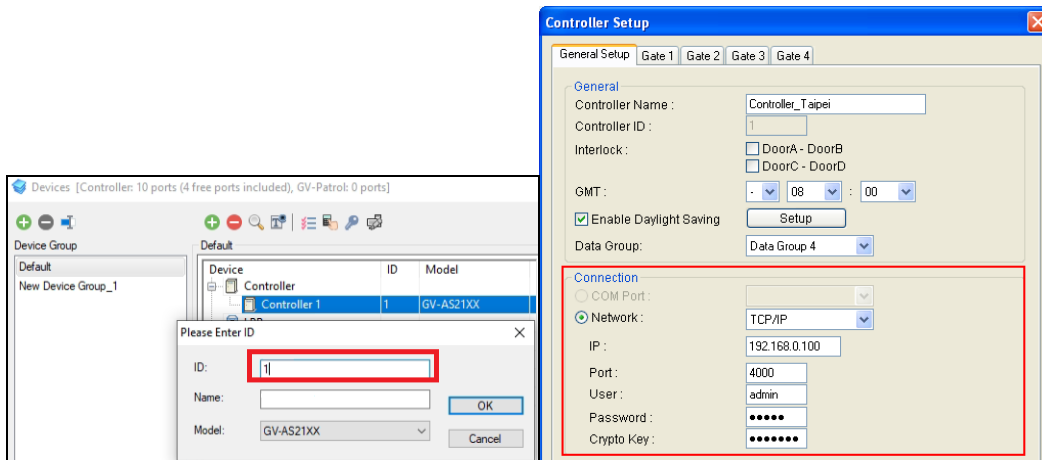

Figure 19-3
- On the GV-ASManager system, enter the following settings. See Figure 19-3.